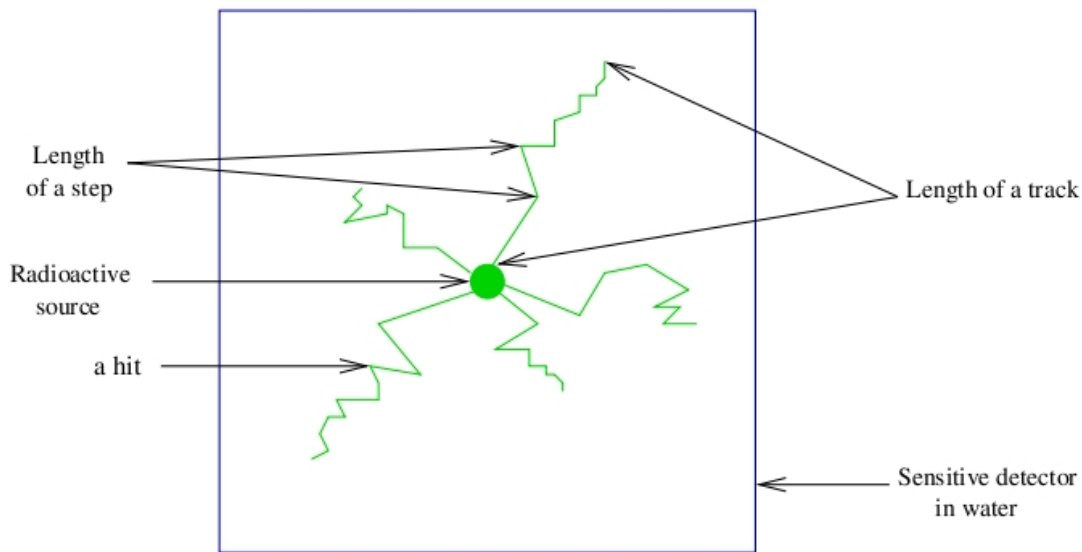

Fig. 3.15: Particle interactions in a sensitive detector
Once a model has been defined for the scanner through the construction of a system (see Defining a system), the next step is to attach a **sensitive detector** (SD) to some volumes of the geometry. As in any Geant4 simulation, these sensitive detectors are used to store information regarding interactions of a particle in the matter (*hits*) using information from the steps occurring along the particle track. A hit is a snapshot of a physical interaction of a track in a sensitive region of the detector. Fig. 3.15 illustrates these notions. Hits contain various pieces of information associated to a step object, such as the energy deposition of a step, geometrical information, position and time of a step, etc.